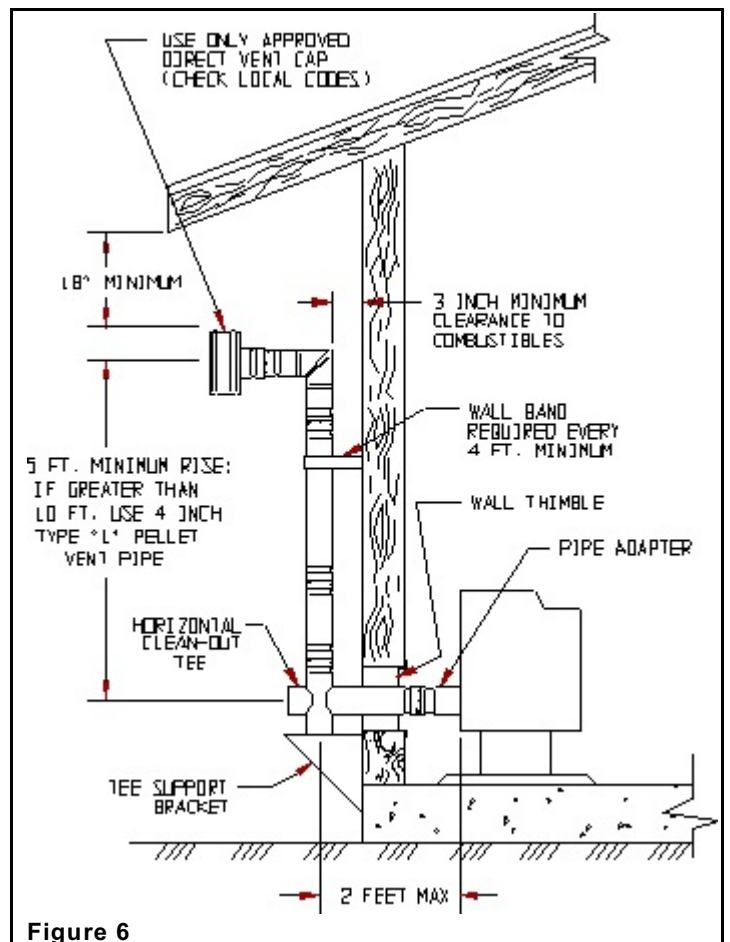

Figure 6
2. In order to hook-up the battery and engage the 12V backup system simply connect red cable to red terminal on the heater (**see Figure 6**) and to positive connector on battery [the terminal marked (+)] and connect the black cable to the black terminal on the heater and to the negative connector on the battery (the terminal marked (-)). If you hook up the cables backwards the red LED light above the terminal receptacles will come on. If hooked up properly this LED will glow green.